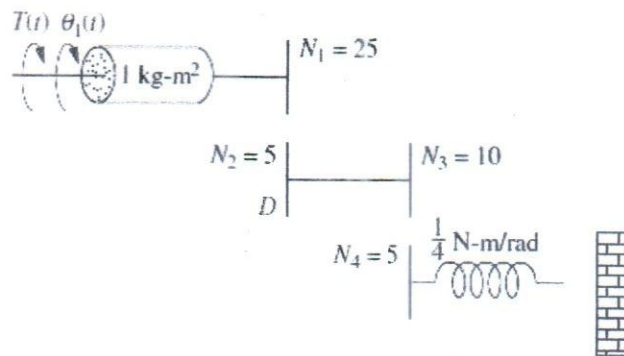

Figure 1: A schematic diagram of a rotational mechanical system with gears
1. a) A mechatronic system can be model according to the schematic diagram in Figure 1. Solve for the damper value, D of the first gear ratio that will generate a 20% overshoot in output angular displacement for a step input. (15 Marks)